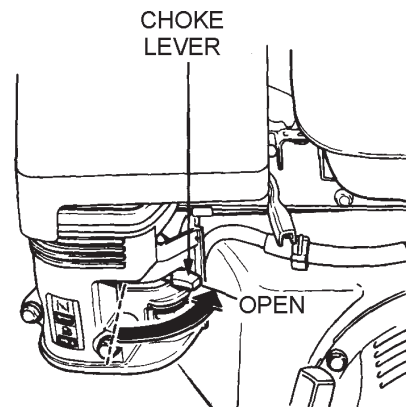

Figure 8. Engine Choke Lever (Open)
3. Place the *choke lever* (Figure 8) in the "OPEN" position if starting a *cold engine*.